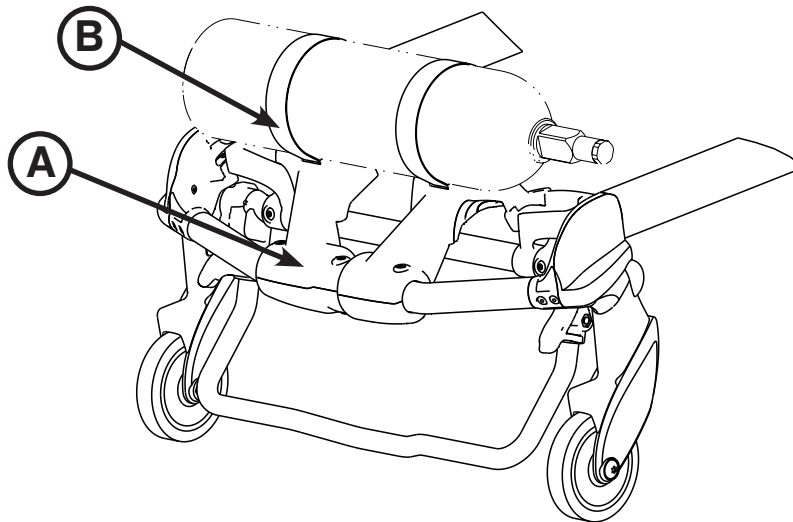

Figure 65
1. Center the oxygen bottle on the cradled surface of item (A) as shown in Figure 65.
2. Tighten both straps (B) around the oxygen bottle.